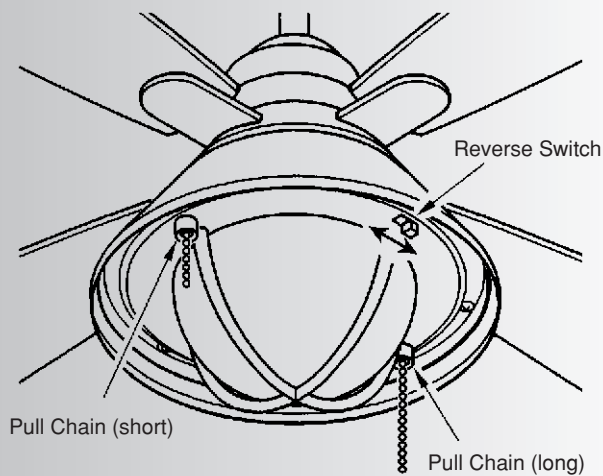

Fig. 18
Step 1. Attache the decorative pull chain fobs to the two pull chains coming out of the light kit (Fig.18)